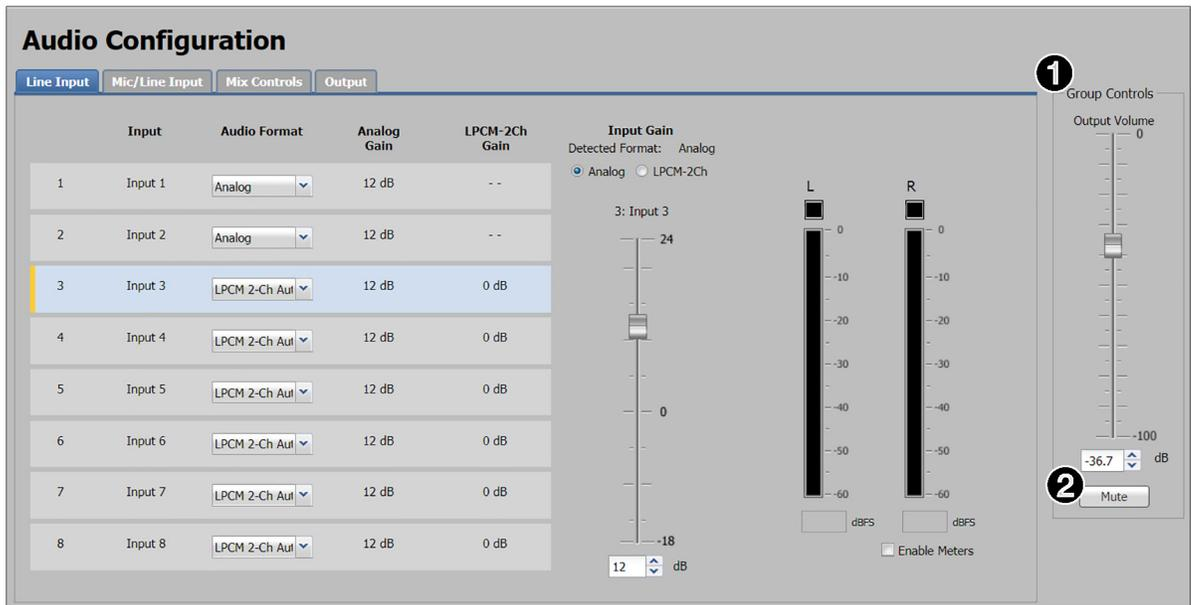

Figure 75. Group Controls Fader Beside Line Input Page
3. For the desired group master, click the corresponding drop-down menu (see figure 75, **1**) to display a list of available group members.
3. From the Front Panel Volume Knob list (see figure 75, **2**), select the desired volume control the front panel volume knob adjusts. The available options are: